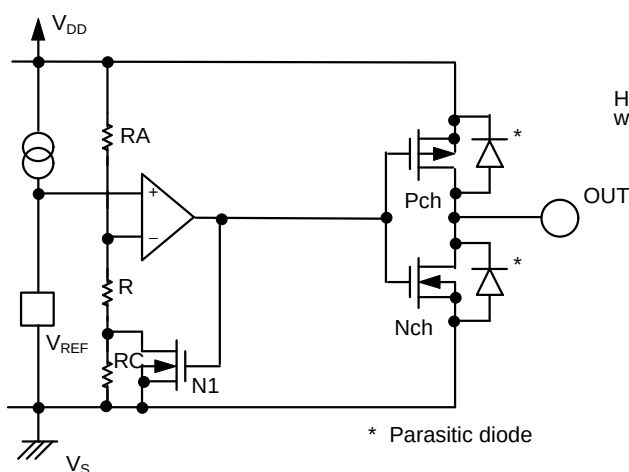
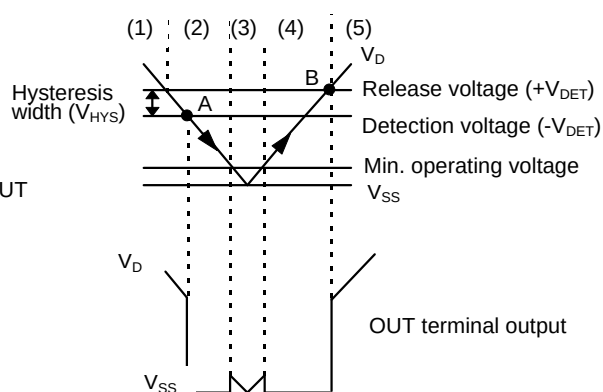

Figure 9
Figure 10
The hysteresis width is the voltage difference between the detection voltage and the release voltage ($B-A=V_{HYS}$ in Figure 10). By giving a device hysteresis, trouble such as noise at the input is avoided.
- (1) When power supply voltage V_{DD} is greater than the release voltage $+V_{DET}$, the Nch transistor is OFF and the Pch transistor ON, causing V_{DD} (high) to appear at the output. With the Nch transistor N1 of Figure 9 OFF, the comparator input voltage is $(RB+RC)/(RA+RB+RC) \times V_{DD}$.
- (2) When power supply voltage V_{DD} goes below $+V_{DET}$, the output maintains the power supply voltage level, as long as V_{DD} remains above the detection voltage $-V_{DET}$. When V_{DD} does fall below $-V_{DET}$ (A in Figure 10), the Nch transistor goes ON, the Pch transistor goes OFF, and V_{SS} appears at the output. With the Nch transistor N1 of Figure 9 ON, the comparator input voltage is $RB/(RA+RB) \times V_{DD}$.
- (3) When V_{DD} falls below the minimum operating voltage, the output becomes undefined. However, output will revert to V_{DD} if a pull-up has been employed.
- (4) V_{SS} will again be output when V_{DD} rises above the minimum operating voltage. V_{SS} will continue to be output even when V_{DD} surpasses $-V_{DET}$, as long as it does not exceed the release voltage $+V_{DET}$.
- (5) When V_{DD} rises above $+V_{DET}$ (B in Figure 10), the Nch transistor goes OFF, the Pch transistor goes ON, and V_{DD} appears at the output.